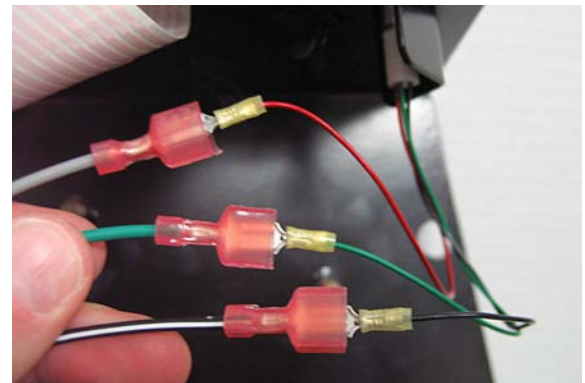

Fig. 10
8. Connect the routed *ec*-H₂O harness wires to the LED light as shown (Figure 10). (Gray to Red, Green to Green, Black to Black)